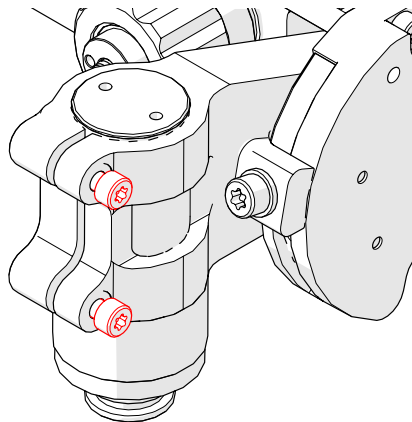

Fig. 183 - Loosen two screws
1. Loosen the two screws on the idler shaft clamp using a T25 TORX driver (*Fig. 183*).